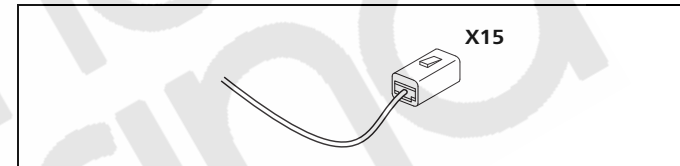

Fig. 49 Connector for CO₂ calibration or diagnostics, see wiring diagram
- Use X15 connector for CO₂ calibration (only for Webasto service workshops). See Fig. 49.